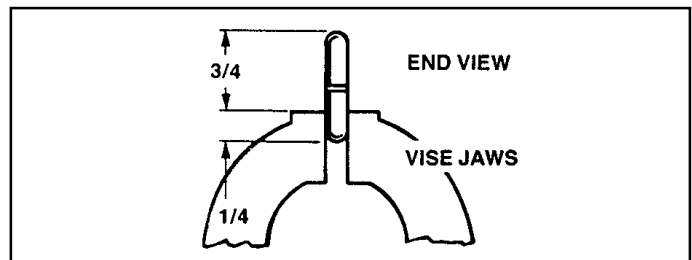

Figure 2-1.
a. Insert split connecting link in a vise so that three-quarters of the link is above the top of the vise jaws as shown in Figure 2-1.